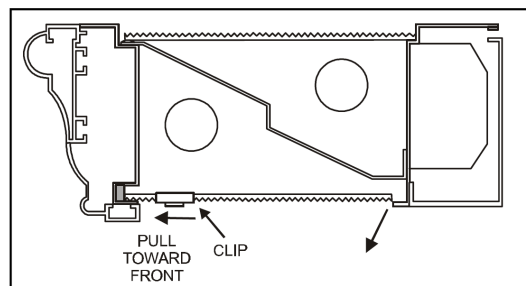

Figure 1
2. Refer to Figure 1 to remove the bottom diffuser. Use the two clips and pull the diffuser toward the front of the fixture until the back edge is released from the slot. Grasp the back edge of the diffuser and remove it from the fixture.